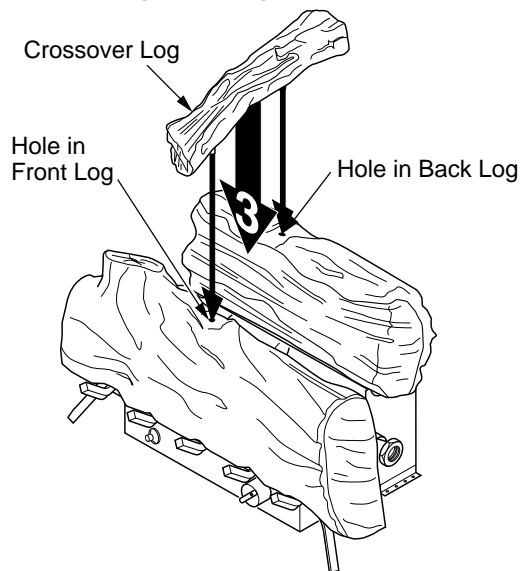

Figure 37 - Installing Crossover Log
3. Place the crossover log on top of the back log and front log making sure pins are inserted into holes on top of logs 1 and 2. This log must be placed as shown in the Figure 37 or the pins will not seat into holes.